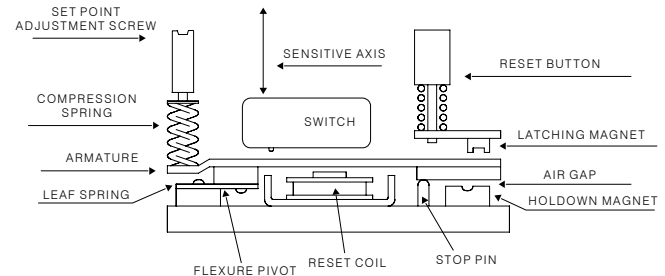

Figure 4-1
The Vibraswitch (ref. Figure 4-1), is sensitive to vibration in a direction (the sensitive axis) perpendicular to its mounting base. It contains a vibration detecting mechanism, which also functions as a “mechanical amplifier”, to activate a snap-action switch when the selected level of vibration is exceeded and the detecting mechanism “trips”.
With the equipment on which the Vibraswitch is mounted **not** operating, back off the Setpoint adjusting screw counterclockwise (CCW) two turns and press the reset button. Then turn the Setpoint adjusting screw slowly clockwise (CW) until actuation occurs (the armature assembly is against the latch magnet, Figure 4-1). **This is the zero vibration point**, or actuating point, with the machine not operating. A mark should be made with a lead pencil or other convenient means to permanently record this “zero” vibration point. Subsequent measurements are made relative to this point.
a. Functional Test (Ref. Figure 4-1)
3. **Broken Leaf Spring (Ref. Figure 4-1) –**